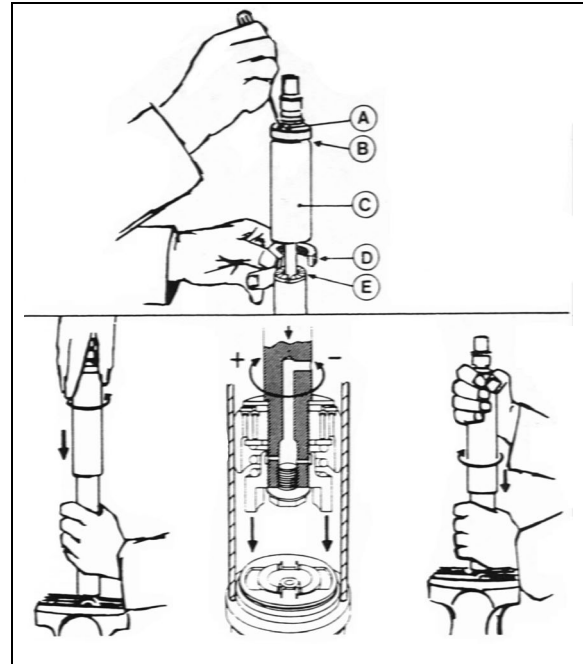

FIGURE 17: DAMPER
To adjust opening and closing cycle speed on damper (Figure 17):
2. Fully close the damper while turning the dust cap or piston rod slowly CCW until it is felt that the cams of the adjusting nut engage in the recesses of the foot valve assembly (Figure 17).
*In Figure 17, if there is an indentation (B) in the dust cap (C) and the cover shows two holes (A), the damper is fitted with a bump rubber (D). If so, fully extend the damper and insert a round bar or screwdriver through the holes. Push the bump rubber down and remove. Remove the split plastic collar (E) (if fitted) from the piston rod.*
*Where a bump rubber was installed, refit same inside the dust cap and by fully closing the damper, the rubber will seat again at top of the dust cap. Refit the split plastic collar E (Figure 17)*
3. Remove the Allen button head screw and the washer retaining the ball and socket rod to the upper hinge. See Figure 17.
3. Remove the Allen button head screw and the washer retaining the rod end with bearing to upper hinge. See Figure 17.